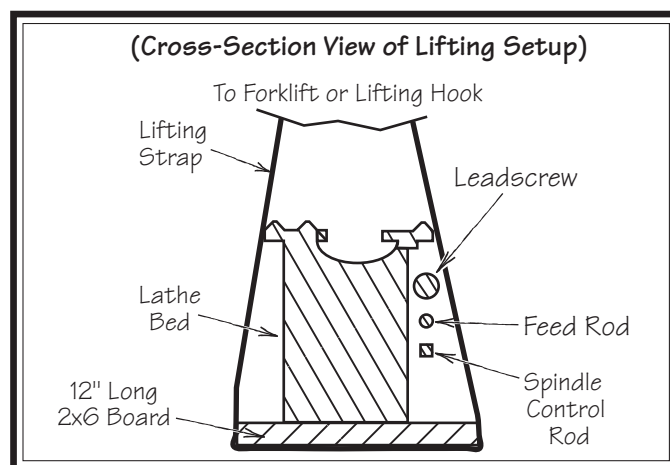

Figure 18. Cross section of lifting setup.
5. Position a 12" long 2x6 board under each end of the bed, as illustrated in **Figure 18**, then wrap the lifting straps around the bottom of the 2x6's.